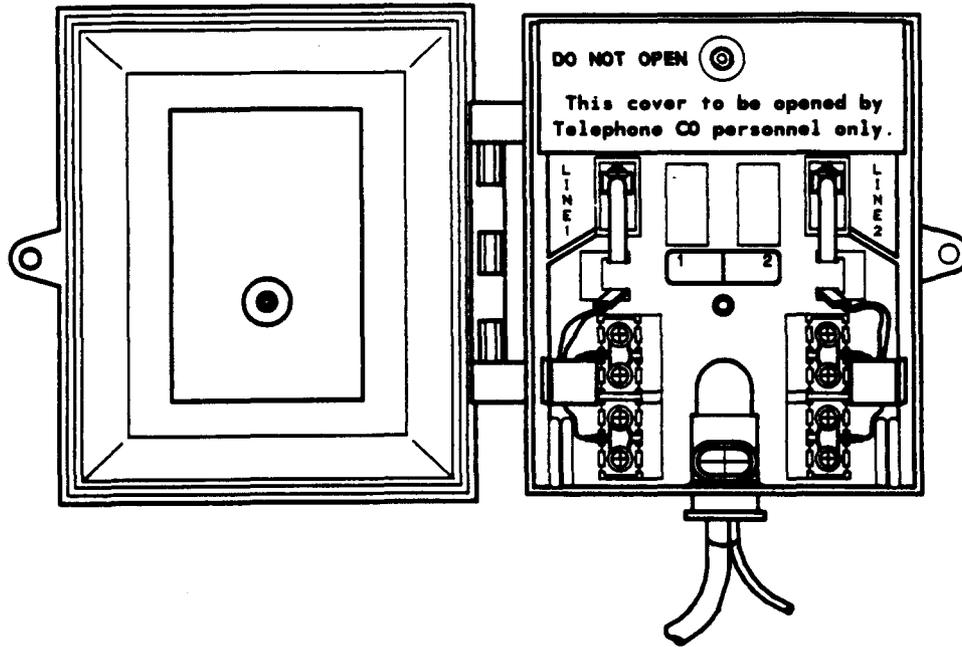

Figure 7. 401 NIU — Installing Network Interface Unit onto Base
- (4) As shown in Figure 7, install the NIU by mounting it on the base the same way as the B2 Customer Service Closure. Open the outside door of the NIU, using a 216 tool or screwdriver.